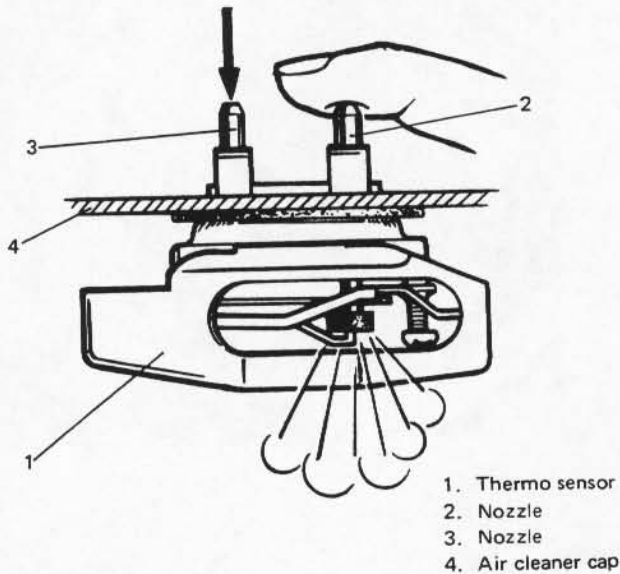

Fig. 5-2-11
- 4) Close a nozzle with finger and then blow air into nozzle. If measured temperature is above 40°C (104°F), air should come out of thermo sensor valve (valve is open) as shown in Fig. 5-2-11.